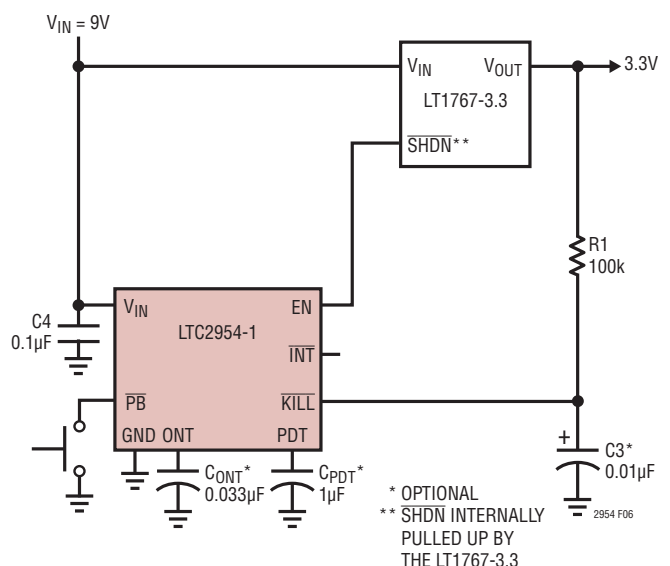

Figure 6. No  $\mu\text{P}$  Application
**$\bar{K}ILL$  (Pin 8/Pin 5):** Kill Input. Forcing  $\bar{K}ILL$  low releases the enable output. During system turn-on, this pin is blanked by a 512ms internal timer ( $t_{KILL,ON\ BLANK}$ ) to allow the system to pull  $\bar{K}ILL$  high. This pin has an accurate 0.6V threshold and can be used as a voltage monitor input. If unused, connect to a low voltage output supply (see Figure 6).
Figure 6 shows how to connect the  $\overline{\text{KILL}}$  pin when there is no circuitry available to drive it. The minimum pulse